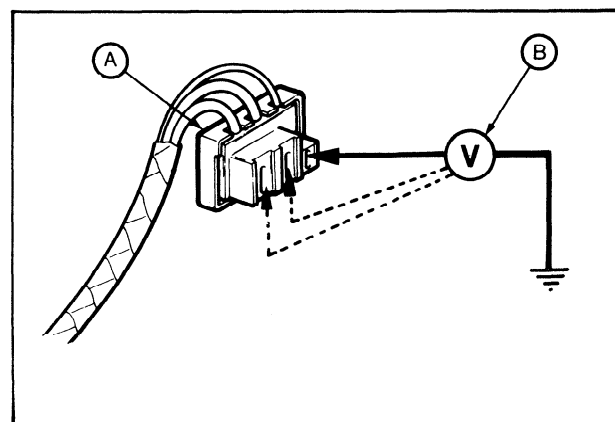

FIG. 1 Wiring Continuity Test
4. Connect a voltmeter between a good ground and each of the wiring plug terminals in turn (Fig. 1). The voltmeter should read approximate battery voltage at all terminals. If voltage readings are correct go to Output Test. A zero reading indicates an open circuit. Repair as required.